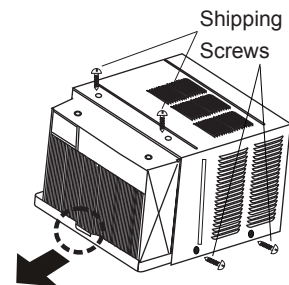

Fig. 5
7. Remove shipping screws from top of unit and also on the side by the base if installed. (See Fig. 5.)
3. Position cabinet to achieve proper slope for water removal. (See Fig. 5.)